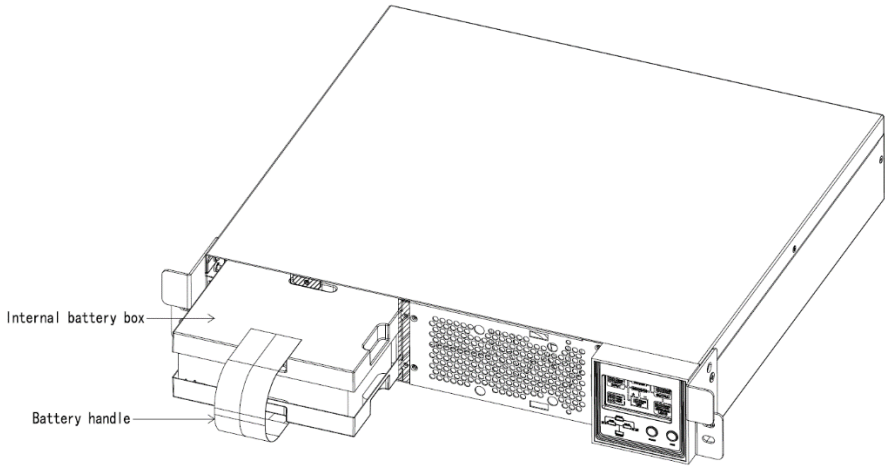

Figure 8-3 Pull out the Internal battery box
- 4) Hold the battery handle and pull the internal battery box out of the UPS. As shown in Figure 8-3.